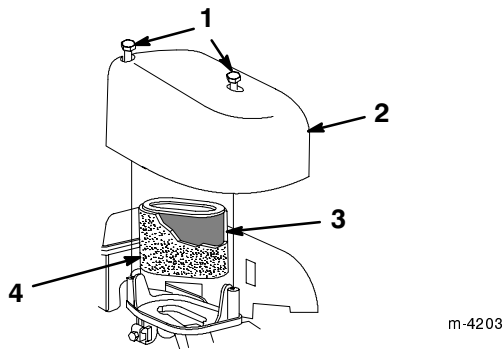

Figure 21
3. Remove the screws that secure the air cleaner cover (Fig. 21).
4. Remove the cover and clean it thoroughly (Fig. 21).
5. Remove the foam pre-cleaner (Fig. 21).
6. Wash the foam pre-cleaner with a mild detergent and water, then blot it dry (Fig. 21).
7. Remove the paper air filter and discard it (Fig. 21).
8. Install the foam pre-cleaner on the new paper air filter (Fig. 21).
9. Install the new air cleaner filter (Fig. 21).
10. Install the cover and secure it (Fig. 21).